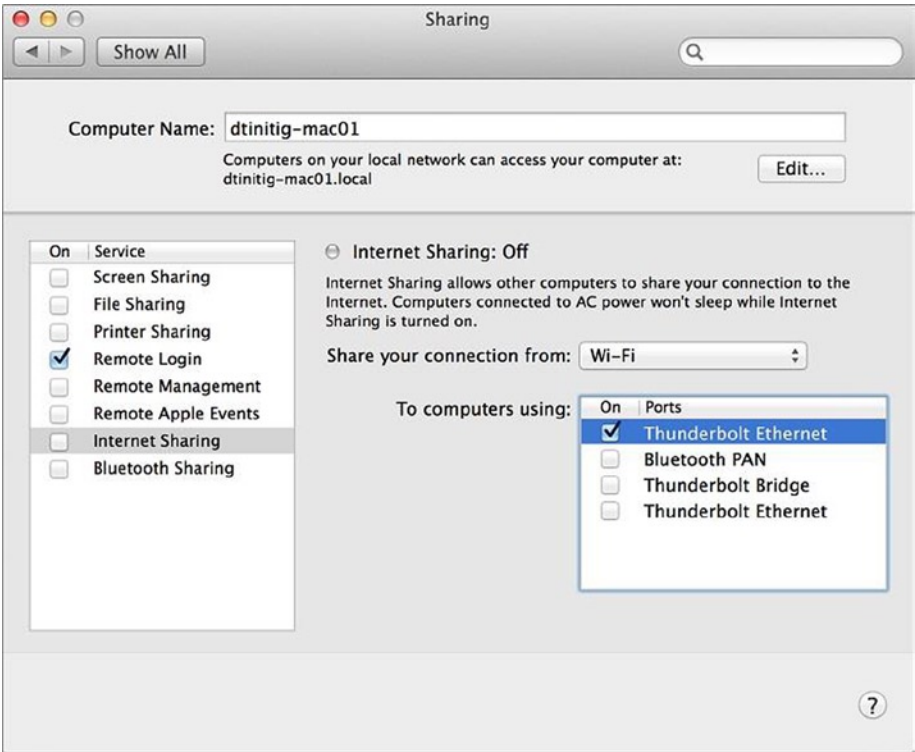

Figure 5-19. *Sharing an Internet connection on MacOSX*
6. It's easy to share the Internet connection between different adapters on a Mac. Using the Apple menu, choose System Preferences and select Internet Sharing. Then select the adapter that will share the Internet connection and the adapter that will receive the sharing. For example, Figure 5-19 shows the WiFi adapter on MacOSX sharing the Internet connection with the Ethernet adaptor, wherein Intel Galileo is connected.